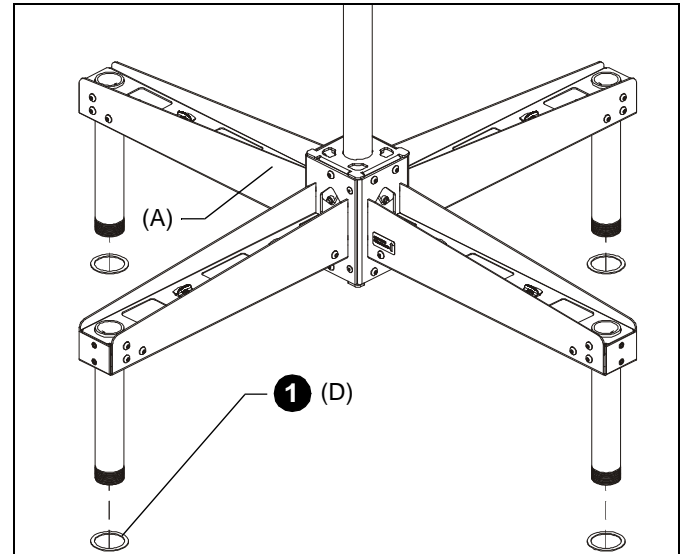

Figure 4
1. **OPTIONAL:** Slide one rotation ring (D) up onto leg of the quad ceiling accessory (A). (See Figure 4)